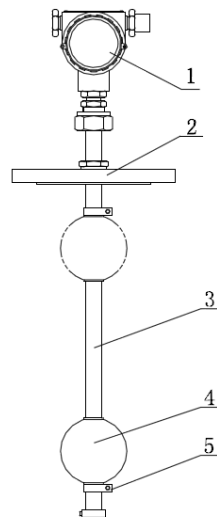

Figure 1
2.1 Main Structure of Product -Figure 1